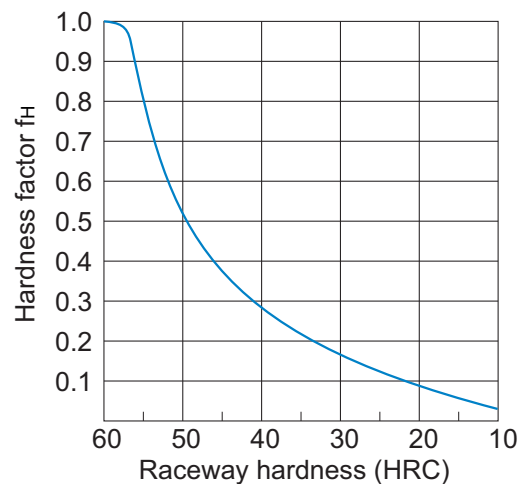

Fig.1 Hardness Factor ( $f_H$ )
- C : Basic dynamic load rating (N)
- P : Applied load (N)
- fH : Hardness factor (see Fig.1 on A-11)